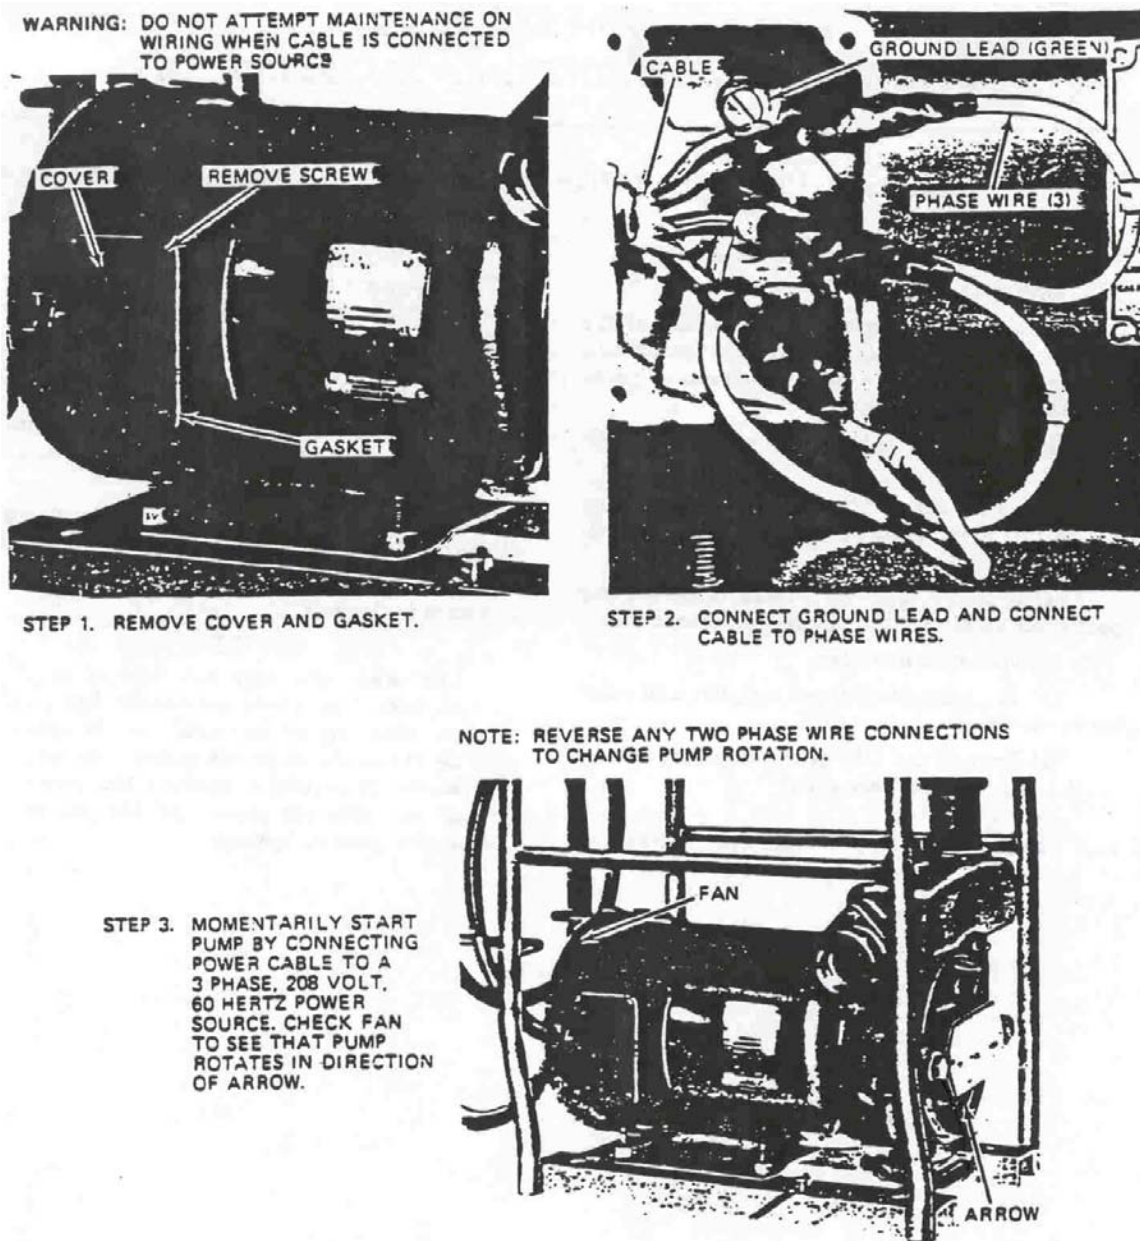

Figure 6.3
c. Connect the electric leads to the power cable as shown in figure 6.3.